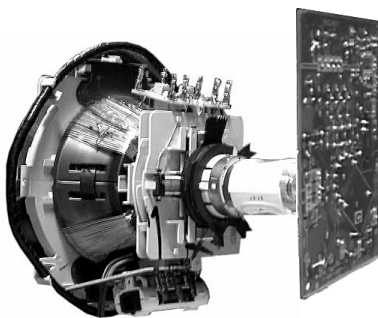

Fig. 3-1.
3. Move the deflection yoke forward and adjust with the purity control so that the Red is at the centre and the Blue and Green take up equally sized areas on each side of the screen. [See Fig.3-1 - 3-3].
4. Move the deflection yoke backwards and adjust so that the entire screen becomes Red. [See Fig.3-1]